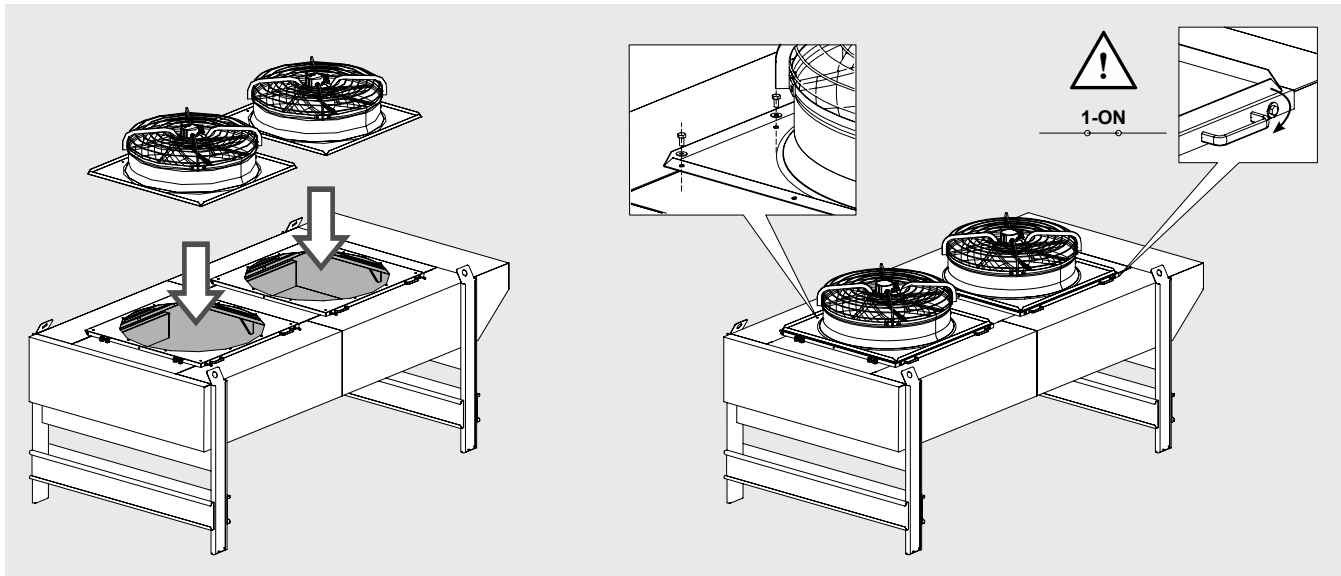

Figure 11
- 8.11.13 Fix the fan-shroud to the upper frame using the screws previously taken out of the model. Use all the fixing points. See "Figure 11".